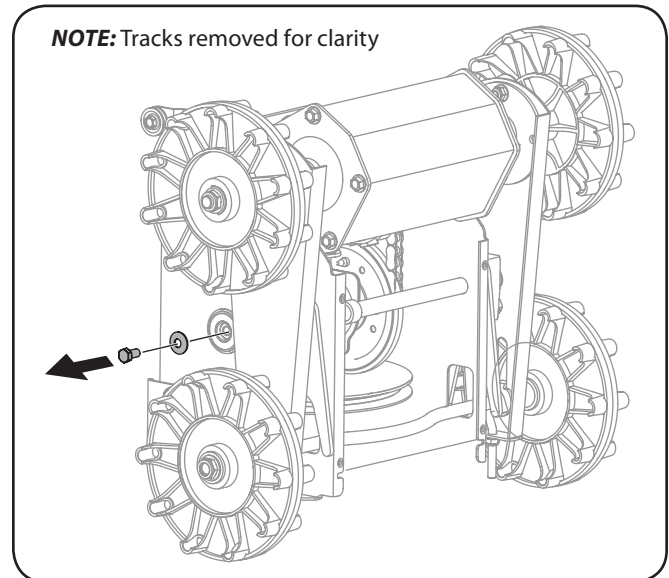

Figure 7-8
- Using a $\frac{3}{4}$ " wrench to hold the gear shaft, remove the hex bolt and bell washer on the left end of the gear shaft. See Fig. 7-8 and 7-9.